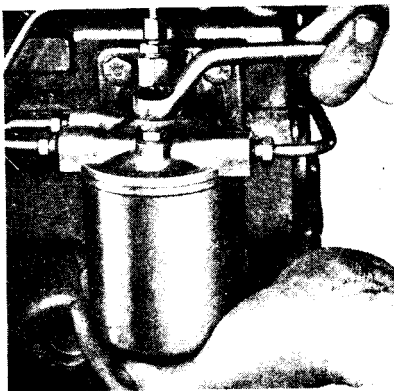

Fig. 11.
2. Unscrew setscrew at top of filter bowl. (see fig. 11).